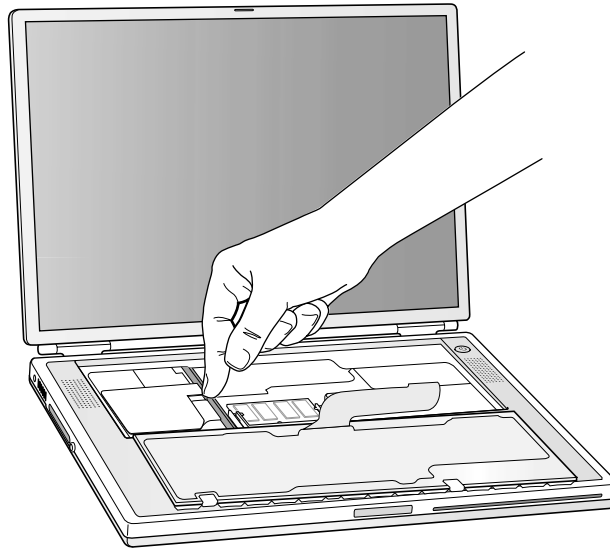

Figure 5
11. Touch the computer's inside framework (a dull gray conductive composite material) to discharge any static electricity, as shown (**Figure 5**).